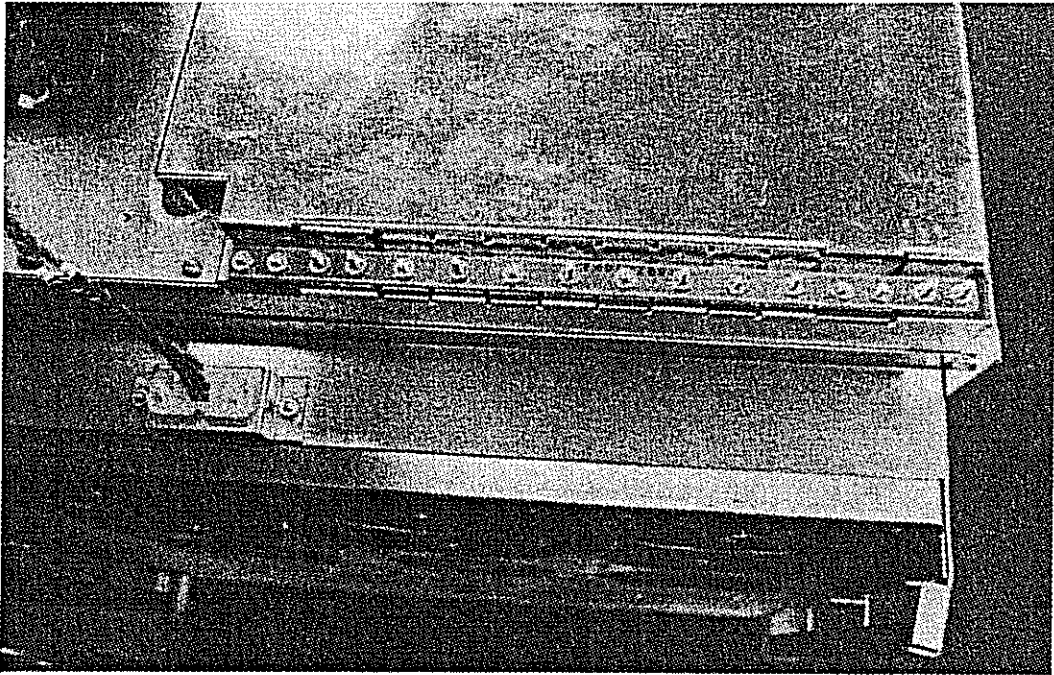

Figure 7-69. Bus Bar
7. Remove the 16 nuts (Figure 7-69) that attach the bus bars to the backplane.